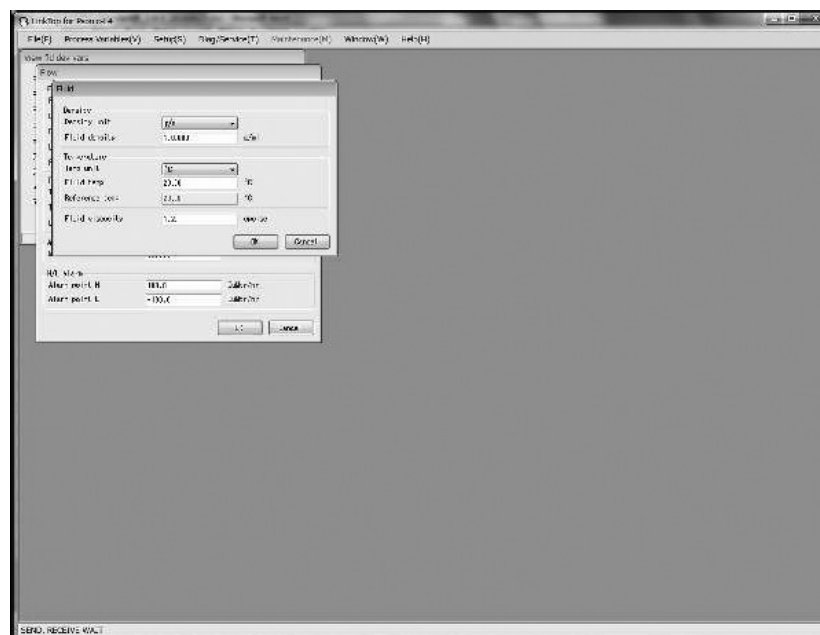

Fig. 3-81
(1) If "Cascade" is selected, the windows are overlaid as shown in Fig. 3-81.